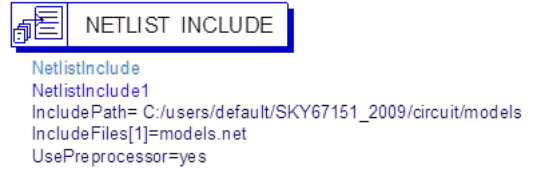

Figure 11. Netlist Include Component Placement with Correct Path
- 6) In the project design will be the Netlist Include component (already placed) where the model path needs to be changed to be the same as the installation directory (find the path for models.net file). If using a new design, click on menu Dynamic Link and choose Add Netlist File Include, Figure 11.